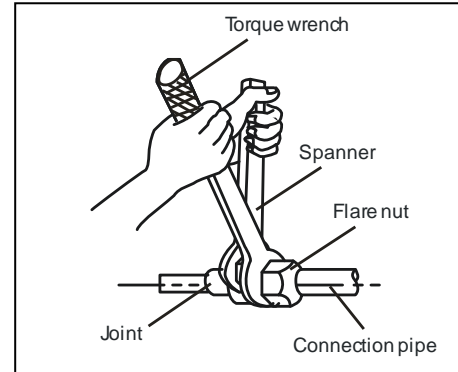

Figure 12
4. After cutting to length, creating the flares and before connecting the line set, clear all foreign materials by blowing nitrogen through copper tubing. Align the center of the tubing flare with its mating connector. Screw on the flare nut by hand and tighten the nut with a spanner and torque wrench. See Figure 12.